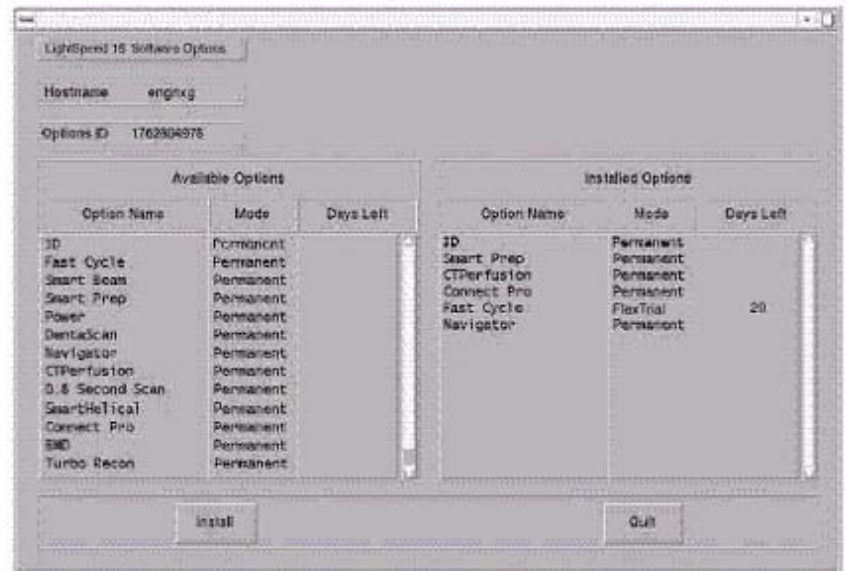

Figure 2-21 Software Options screen
- 9.) Click OK. Available options appear on the Software Options screen (Figure 2-21).